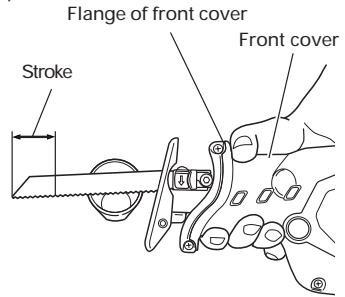
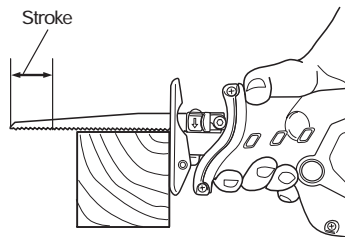

Fig. 17
Fig. 18
- Do not remove the front cover (refer to Fig. 1). Hold firmly the front cover by hand to operate. But, do not extend your hand or finger beyond the flange (see Fig.17) of front cover to avoid an injury.
- Select a saw blade of the most appropriate length. Ideally, the length protruding from the base of the saw blade after subtracting the stroke quantity should be larger than the material (see Fig. 17 and Fig. 18).